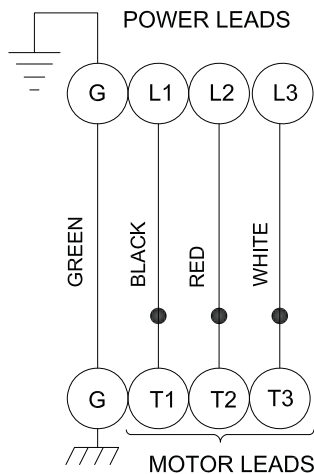

**Figure 3**
**Bearings & Inner Seal** - Remove seal (4) rotating member and spring from rotor shaft. Press stationary from intermediate (5) with flat screwdriver. Examine all seal parts. Inspect contact faces for signs of uneven wear tracks on stationary, chips and scratches on either seal face. **DO NOT interchange seal components, replace the entire shaft seal (4).** Remove retaining rings (6) from shaft. Using a wheel puller or arbor press remove bearing (3) from shaft. Remove upper motor bearing from shaft with a bearing puller. (See Figure 3)
**Inner Seal** - Clean and oil seal cavity in intermediate coupling (5). Lightly oil (**Do not use grease**) outer surface of stationary member. Press seal's (4) stationary member firmly into intermediate coupling (5), using a seal tool or pipe.
Nothing should come in contact with the seal face except the seal tool. Be sure the stationary is in straight. Place seal's (4) retaining ring and spring over shaft until seated on shaft shoulder. Slide a bullet tool over rotor shaft threads. Lightly oil (**Do not use grease**) shaft, bullet, and inner surface of bellows on rotating member, with finished end away from motor, slide rotating member over bullet and onto shaft until it engages spring. Make sure spring is seated in retaining ring and spring is lined up on rotating member and not cocked or resting on bellows tail. (See Figure 3)